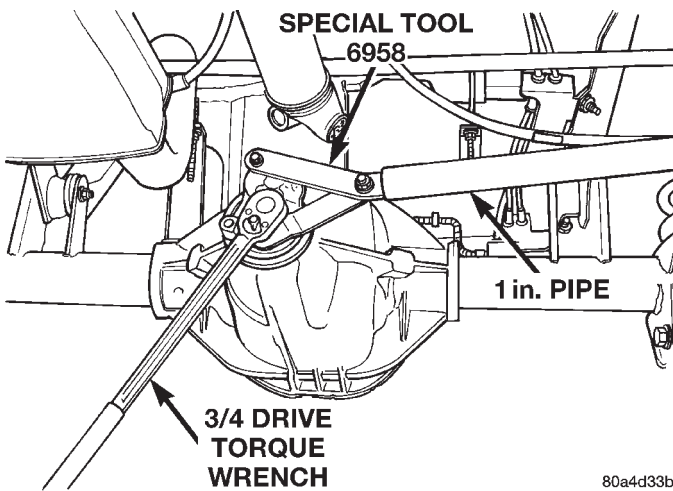

Fig. 13 Tightening Pinion Shaft Nut
(6) If the rotating torque is low, use Holder 6958 to hold the pinion yoke (Fig. 13), and tighten the pinion shaft nut in 6.8 N·m (5 ft. lbs.) increments until the proper rotating torque is achieved.